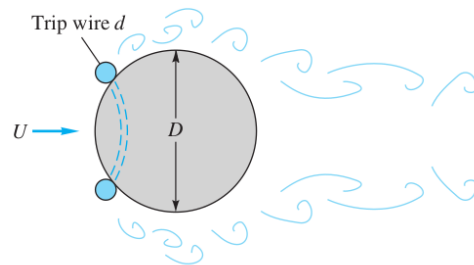

Fig. 6.1
6.1 In flow past a body or wall, early transition to turbulence can be induced by placing a trip wire on the wall across the flow, as in Fig. 6.1. If the trip wire in Fig. 6.1 is placed where the local velocity is U , it will trigger turbulence if $Ud/\nu = 850$, where d is the wire diameter. If the sphere diameter, D , is 20 cm and transition is observed at $Re_D = 90000$, what is the diameter of the trip wire in mm ?